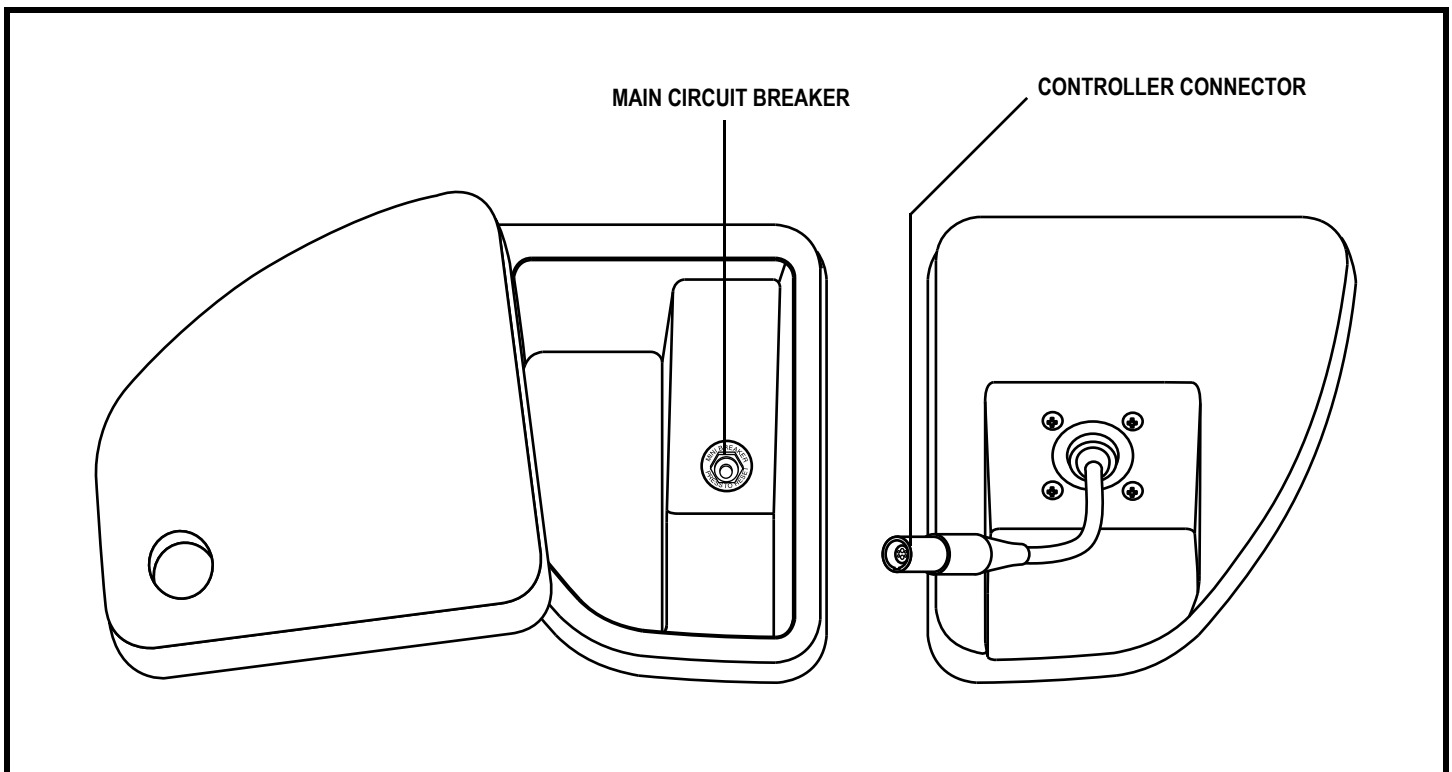

Figure 7. The Quantum Jazzy 1420 Series Electronics Tray
7. Plug the controller connector into the electronics tray. See figure 7.